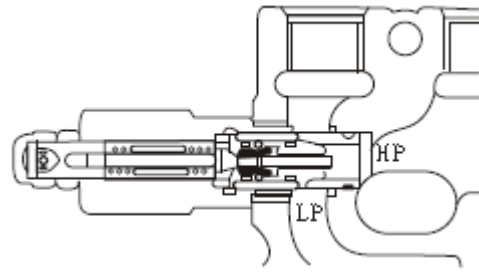

Fig. 5-6
(2) Operation of safety overflow valve
An overflow valve is installed between the HP connector of oil pump and the low-pressure (LP) passage. The oil passing through the lifting valve C acts on different areas with diameters A and B respectively. Thus, both the one-way valve K and overflow lifting valve D are set on the valve seat. See Fig. 5-6.